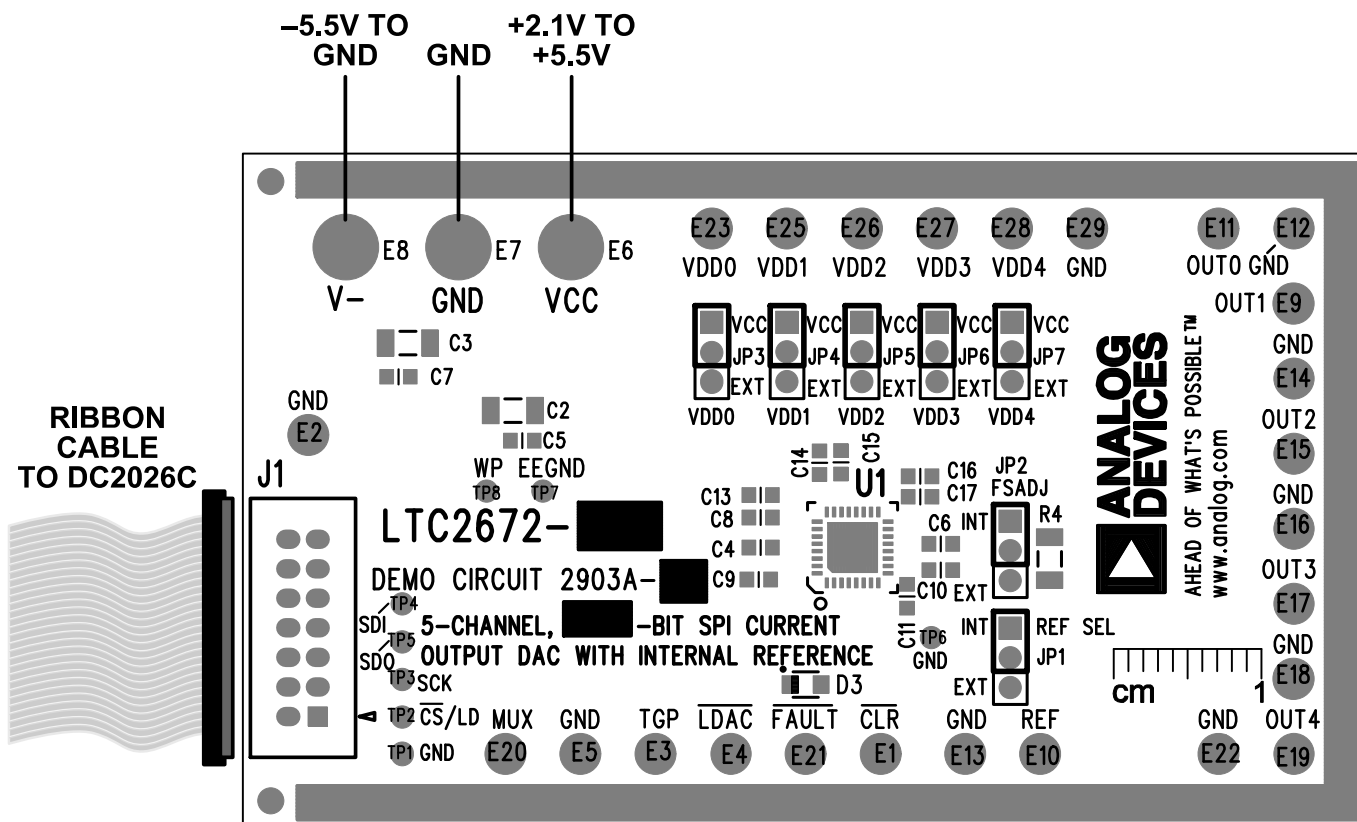

Figure 2. DC2903A Hardware Connections
The DC2903A requires the power connections and connection to the DC2026C controller board shown in Figure 2. The ribbon cable provided in the evaluation kit connects the DC2903A and the DC2026C via the J1 connector. Turrets are provided to connect the DC2903A to the power supplies.
1. Connect the DC2026C to the DC2903A via the J1 connectors with the ribbon cable provided (see Figure 2).